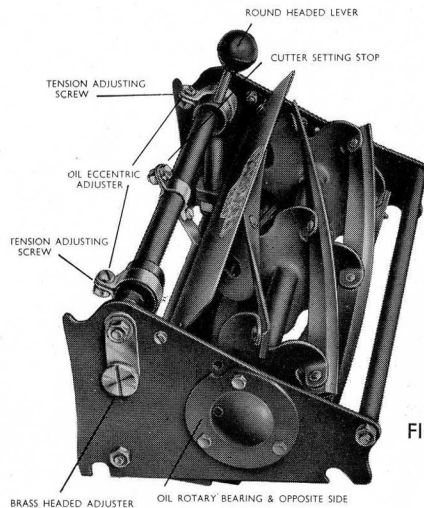

FIG. 3
- (f) Oil rotary cutter bearings. (First remove detachable unit.) See Fig. 3.
- (g) Apply oil around the two steel straps which hold the eccentric adjuster in position. Work adjuster backwards and forwards to assist entry of oil. (See Fig. 3.)
- (1) First unscrew the locking nut of the setting stop screw a couple of turns to release the stop and make it free on the tube. (See Fig. 3.)
- (2) Now set the bottom shear blade parallel to the rotary cutter. (Please refer to the instructions, reference Parallellism of Cutters.)
- (3) Adjust the bottom shear blade to a LIGHT AUDIBLE CONTACT with the rotary cutter by moving the round headed lever in the direction of the rear roller. (See Fig. 3).
- (4) With the cutters adjusted to a LIGHT AUDIBLE CONTACT, the cutter setting stop should be rotated and positioned so that the bottom end of the stop contacts up against the back of the grass shield. The lock nut and screw should then be tightened securely in position. A light audible contact between the rotary cutter and the shear blade will give the best cutting results. Too harsh a contact will only cause unnecessary wear and make the machine harder to push.
First remove the cutter unit from the chassis, on the right hand side of the unit will be seen a brass headed adjuster which is connected to the top tie bar by a flat link. (See Fig. 3.)
The tension of the round headed lever adjuster for bringing the blades into contact can be adjusted by the screws which secure the two knife frame straps in position. (See Fig. 3.)